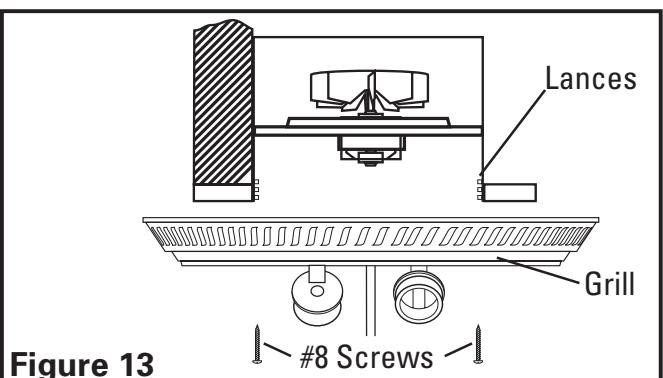

Figure 13
4. Line up slots in the grill with lances on inside of housing. Insert included #8 screws through grill slots and into housing lances. Tighten both screws until the grill fits snugly to the ceiling. DO NOT OVER TIGHTEN (Figure 13).